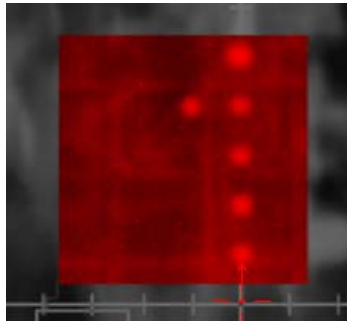

Figure 43: Enlarged Spyglass Area
6. To enlarge the spyglass area, press and hold the **CTRL** key, then press the Right Arrow key. Refer to Figure 43 below for an example.